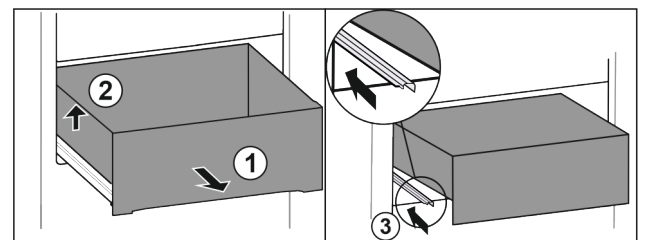

Fig. 87
- ▶ Pull out drawer as far as it will go. Fig. 87 (1)
- ▶ Lift drawer on the left. Fig. 87 (2)
- ▶ Insert left rail. Fig. 87 (3)